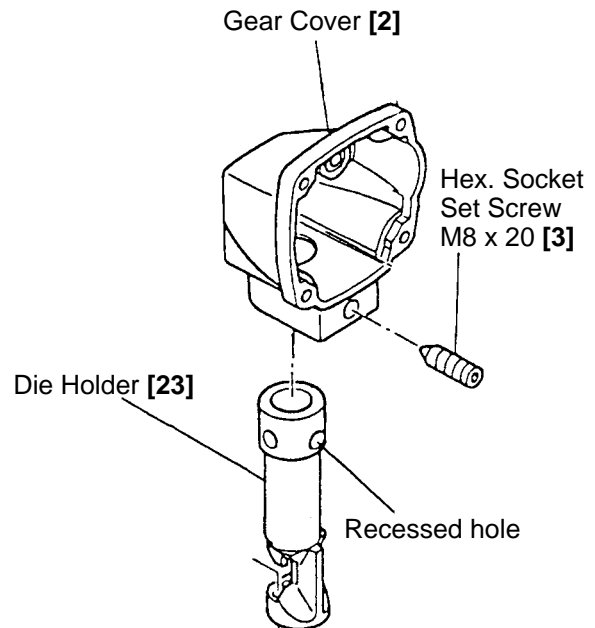

Fig. 8
- (2) When press-fitting the Needle Bearing (M152112) [7] into the Connecting Rod Ass'y [6] with a hand press, fit an appropriate jig against engraved surface end of the needle bearing to push it properly into the connecting rod ass'y.
- (3) When reassembling the Die Holder [23] into the Gear Cover [2] (see Fig. 8), carefully ensure that the Hex. Socket Set Screw M8 x 20 [3] is properly aligned with the recessed hole on the blade holder. Then, tighten the Hex. Socket Set Screw M8 x 20 [3] to rated torque.